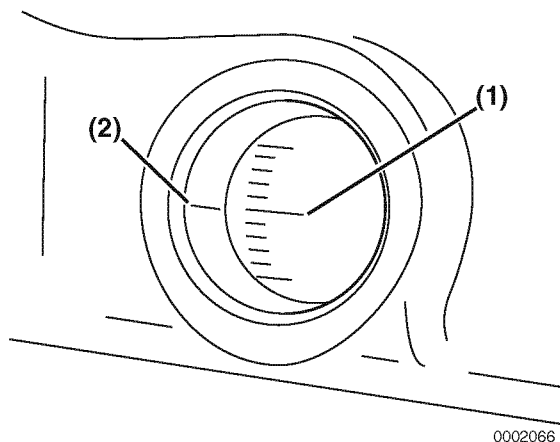

Figure 7-48
2. Rotate the flywheel until the target timing mark (**Figure 7-48, (1)**) and the timing reference mark (**Figure 7-48, (2)**) on the flywheel housing or back plate are aligned.